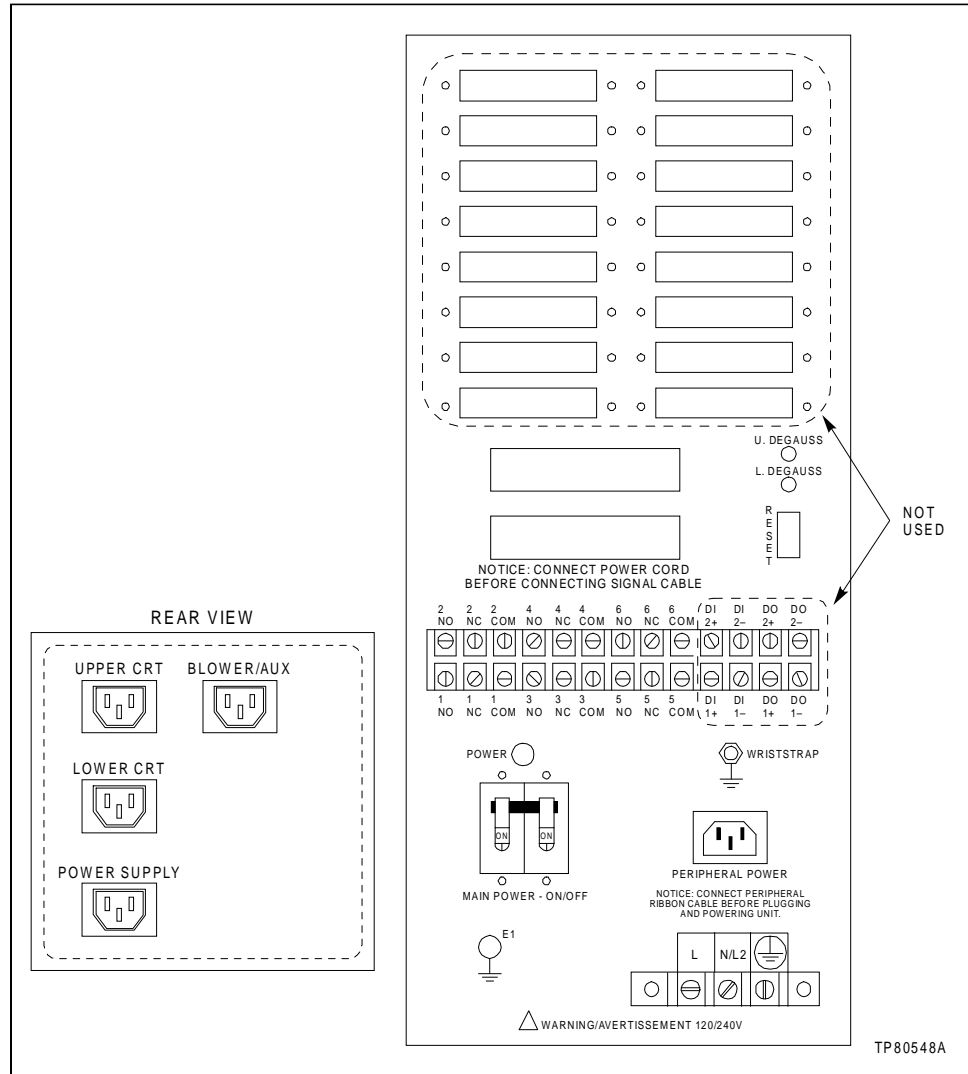

Figure 3-8. IIOIC422 Console Power Entry Panel Connections
1. Wire AC power to the proper terminals of the power entry panel. Refer to Figure 3-8 for AC input terminal location.